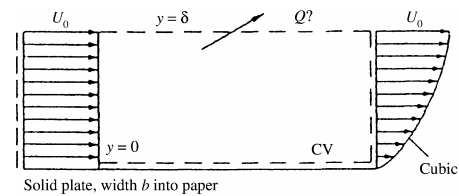

Fig. P3.16
3.16 An incompressible fluid flows past an impermeable flat plate, as in Fig. P3.16, with a uniform inlet profile $u = U_0$ and a cubic polynomial exit profile